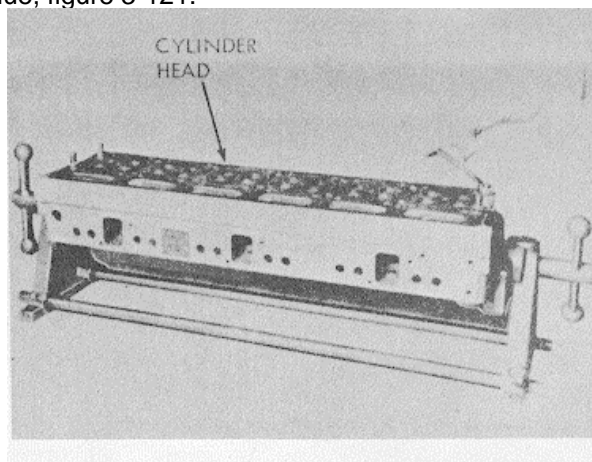

Figure 3-119. Cylinder head in head holding fixture.
- (1) Steam clean complete head assembly.
- (2) Place cylinder head in ST-583 Head Holding Fixture or equivalent, see figure 3-119.
- (3) Remove valves and springs. Use ST-448 Valve Spring Compressor to compress valve springs. ST-448 may be used at bench or on installed engine.